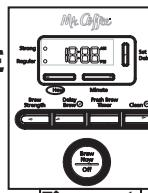

Figure 1
2. Press and hold the Hour button until you reach the current time and then press and hold the Minute button to reach the current minute time. The AM or PM indicator will light on the display (Figures 1 and 2). The clock is now set